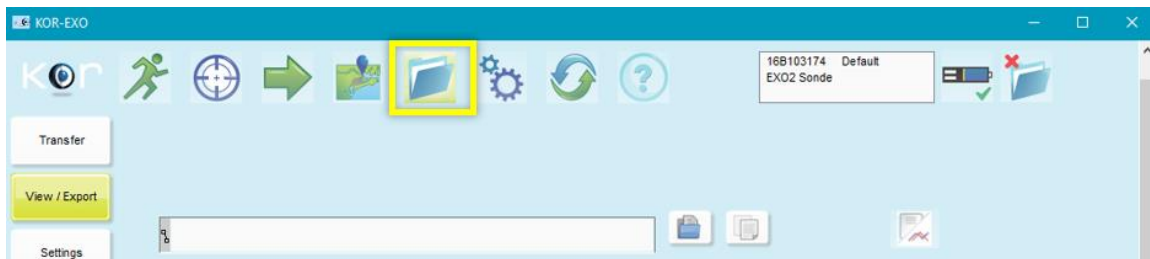

Figure 12. Select the Blue File Folder to Download the Data
1. In the KorEXO software, select the blue file folder in the top menu bar to download the data (Figure 12).